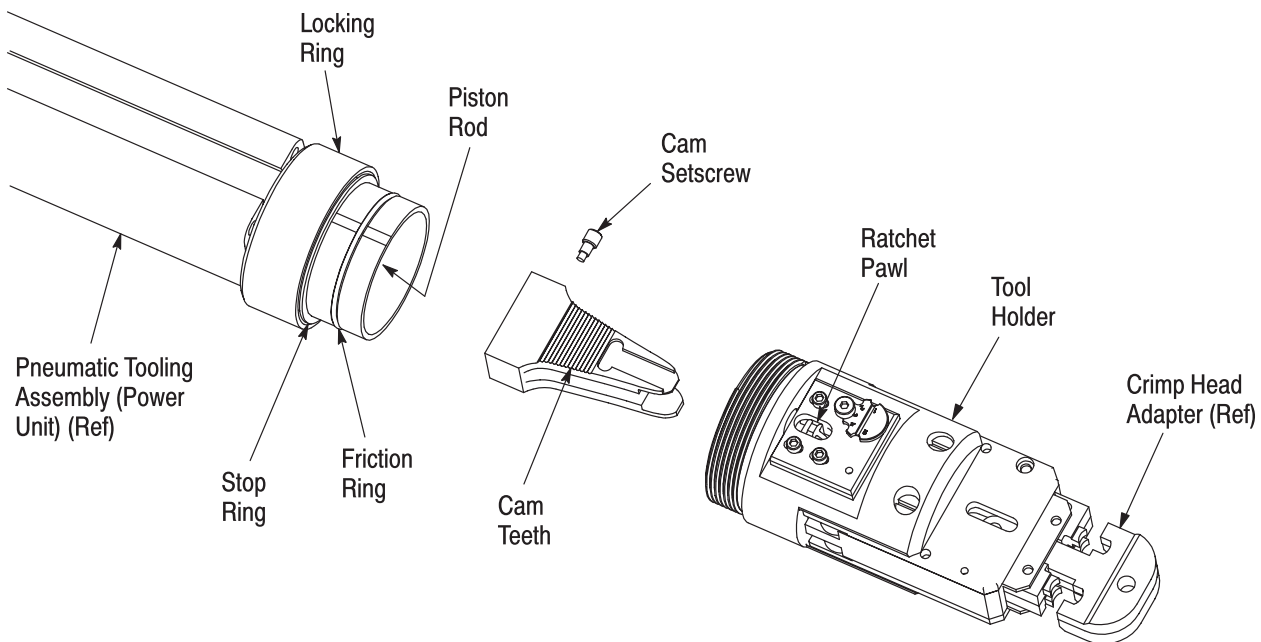

Figure 2
1. If cam setscrew is not installed in cam, thread setscrew into cam two to three turns. See Figure 2.
4. Properly align tool holder ratchet pawl with the cam teeth and push tool holder onto power unit so that it passes over the friction ring on the power unit piston. See Figure 2.